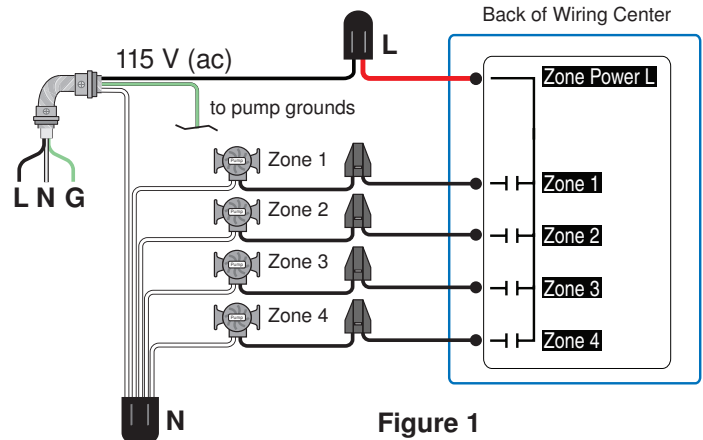
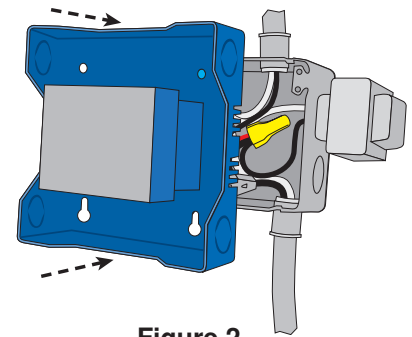

Figure 1
Figure 2
- Wire line voltage to the red zone power lead (L) at the back of the control as shown in Figure 1.
- Wire each zone pump's 115V connection to the black zone pump wires at the back of the control as shown in Figure 1.
- Wire the neutral connection of each pump to the neutral line (N) of the electrical circuit. Do the same with Ground wires.
- Mount the Wiring Center to the electrical box as shown in Figure 2.